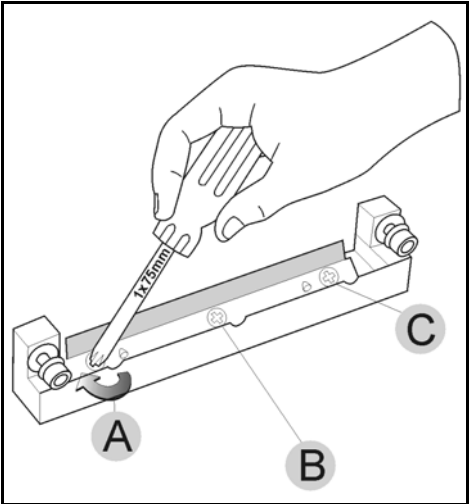

Figure 6-42: Tightening the roller scraper screws
- Tighten the screws in the order shown in figure 6-42.